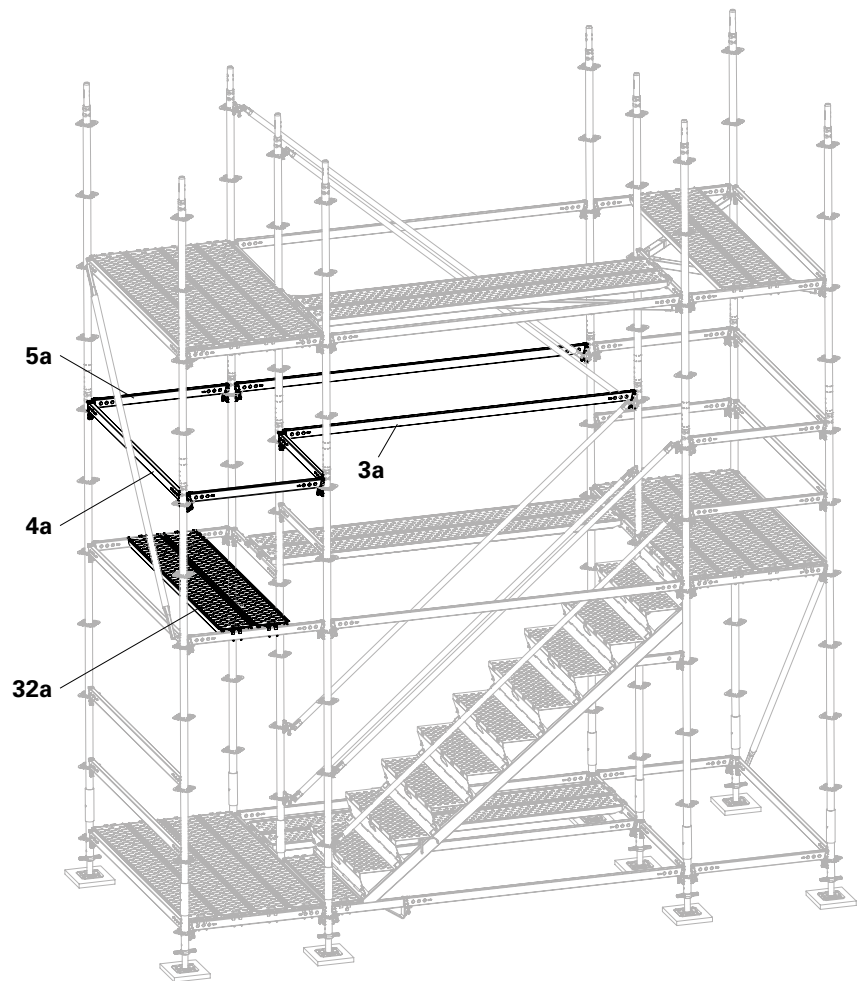

Fig. A3.05
2. Remove the Steel Decks UDG (**32a**) from the level below. (Fig. A3.05)